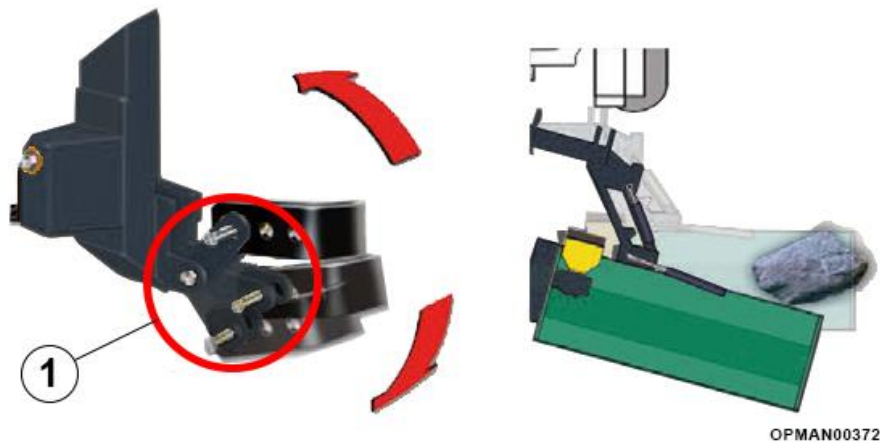

Figure 9
Sniper Offset machines feature a moving linkage (Figure 9 (1)) fitted in between the headstock and the lower link fitting points to the tractor to allow the machine to automatically breakback if the machine comes into contact with an item or if it needs to follow uneven terrain. These should be fitted to the machine at all times.